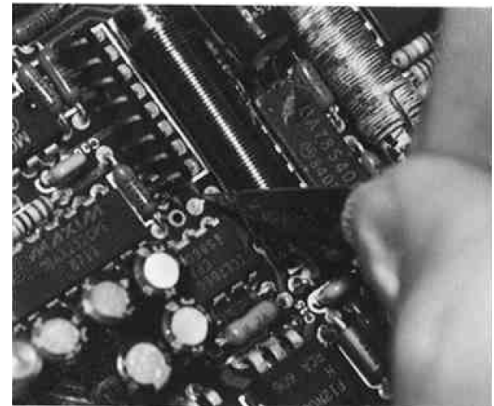

Figure E-1. Cutting through the trace on the printed circuit board
Step 2. Using a sharp knife, carefully cut through the trace on the printed circuit board that is marked by an arrow (fig. E-1).